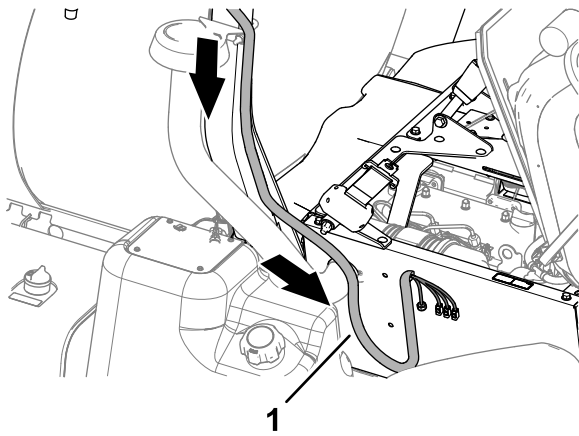

Figure 58
2. Route the modem-antenna harness to the side of the seat base as shown in Figure 58.